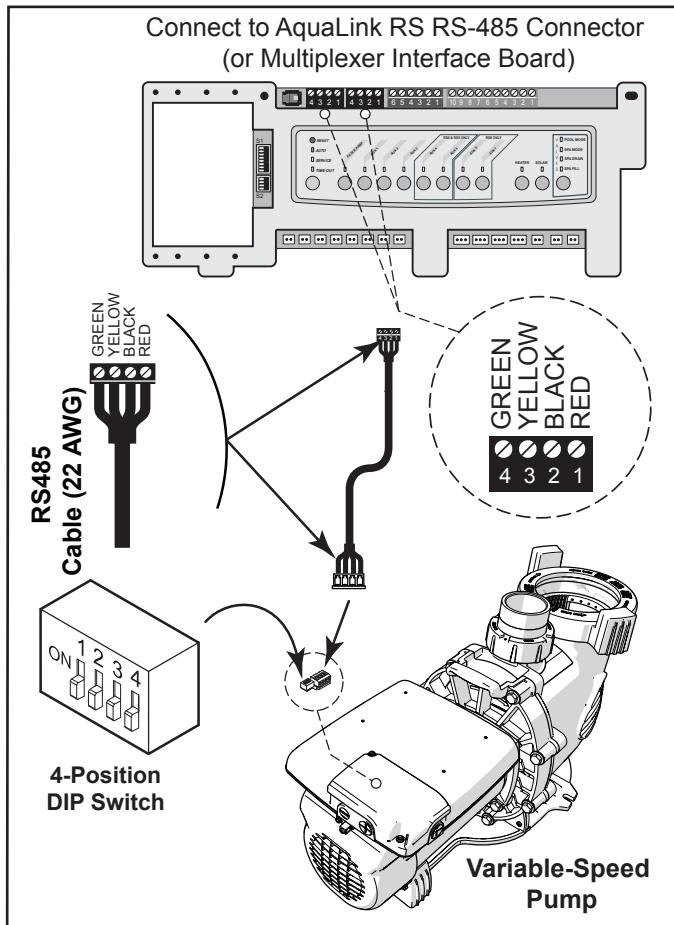

Figure 5. Wiring AquaLink RS, PDA or Z4
2. Dip switches 1 and 2 need to be in the OFF position. See “Figure 5. Wiring AquaLink RS, PDA or Z4”.
5. Connect the new RS-485 cable from the AquaLink through the available compression fitting and route the 4-conductor cable through the motor drive threaded port closest to the connector. See “Figure 5. Wiring AquaLink RS, PDA or Z4”
6. Connect the other end of the cable to an RS-485 connector on the AquaLink RS (or multiplexer interface board), matching wire colors with connector positions. See "Figure 5. Wiring AquaLink RS, PDA or Z4"
As shown in Figures 5 and 6 the 4 position dip switch serves two (2) functions: it selects the pump address, and it determines what type of controller will be used with the pump.
See Figures 5 and 6 for compartment's location details. An access cover with Phillips-head screw must be removed before proceeding.